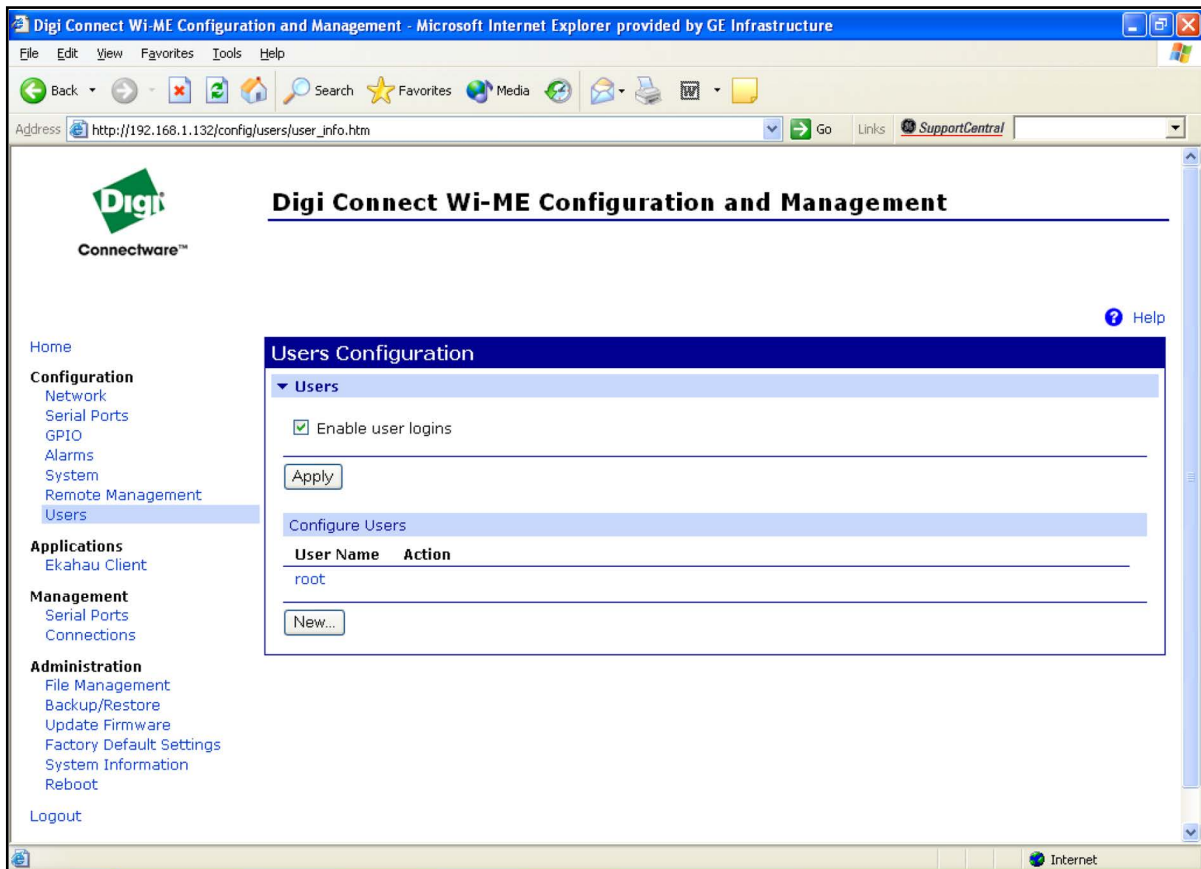

Figure 34: User's Configuration Menu
3. Click on **Login**. *Figure 34* appears.